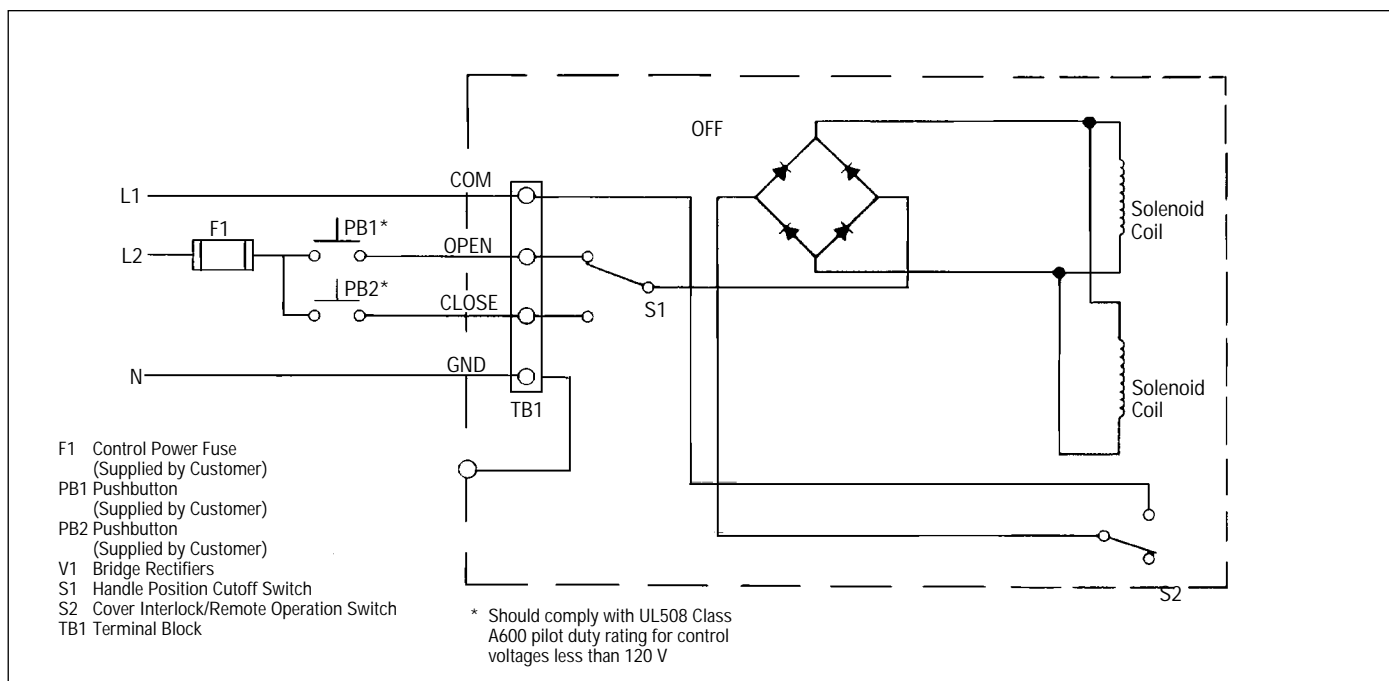

Figure 1-4 Electrical Operator Connection and Schematic Diagram
Table 1.1 Electrical (Solenoid) Operator Catalog Numbers Electrical Rating Data①②③④⑤⑥ (See Figure 1-4 for Additional Data)
The electrical operator includes the dual-solenoid, a full-wave bridge rectifier, and interlock and control switches. An externally mounted terminal block is provided for control connections. The following paragraphs describe the electrical sequence of operation. Figure 1-4 shows the connection and schematic diagram for the electrical operator.
- 2-9. Connect the control wires to the terminal block (TB1). See Figure 1-4.
- 2-10. Connect control wires to remote control devices. See Figure 1-4.
When the assembly is mounted on an insulated surface, connect a ground conductor (green) as shown in Figure 1-4 to ground the electrical operator frame. The ground connection may be omitted where the circuit breaker is mounted on a grounded metal surface.